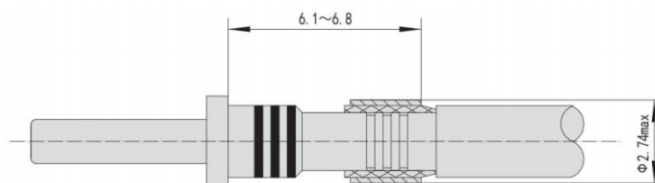

Figure 1.7
- ⑦ As shown in Figure 1.7, place the crimp sleeve forward on the cable shield layer, with the position dimension ranging from 6.1 to 6.8. Cut off the excess shield layer that extends beyond the shield crimp sleeve. Use tool M22520/4-01 and locator M22520/4-02 to crimp the crimp sleeve: crimp once, then rotate the contact by 45 degrees and crimp again. After the second crimping, the diameter of the shield crimp sleeve must not exceed 2.74.